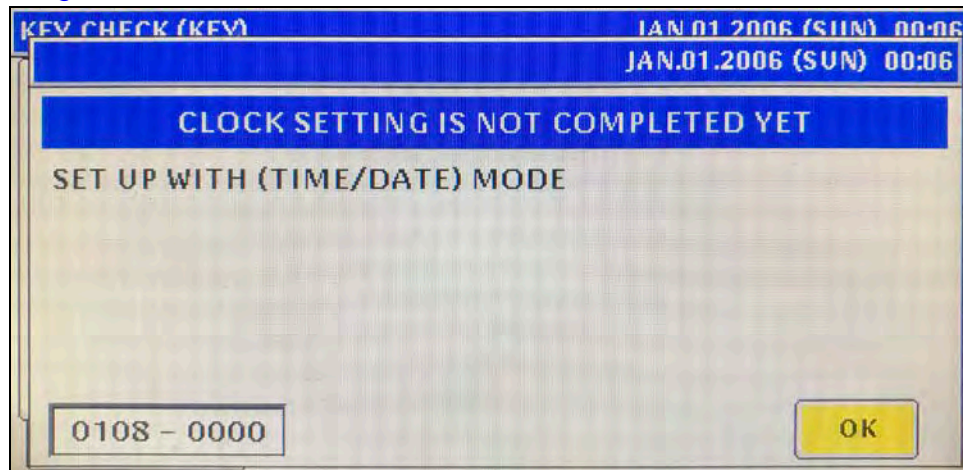

Figure 34. Clock Setting Required Prompt
23. Press **OK** at the 0108-0000, Clock Setting Is Not Complete Yet screen. See Figure 34.